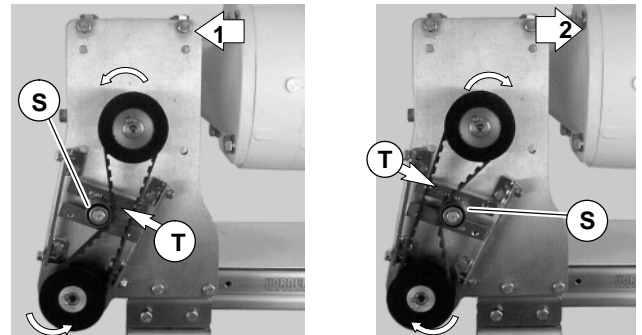

Figure 32
10. Depending on conveyor belt travel (1 or 2 of Figure 32), locate timing belt tensioner (S), as shown. Tension timing belt to obtain 3 mm deflection for 4.3 N of force at timing belt mid-point (T). Tighten tensioner to 51 Nm.